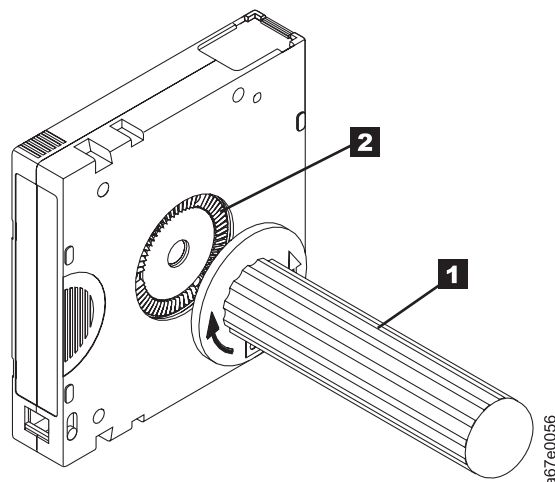

Figure 73. Rewinding the tape into the cartridge
5. To rewind the tape, insert the cartridge manual rewind tool (**1** in Figure 73) into the cartridge's hub (**2**) and turn it clockwise until the tape becomes taut.